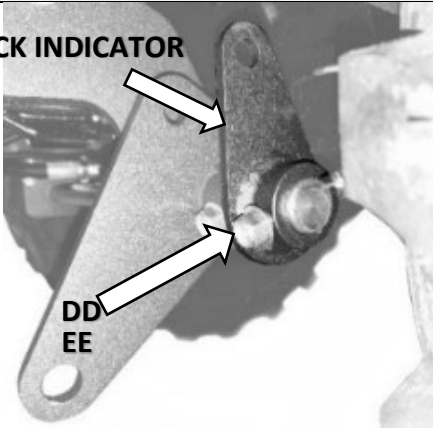

Figure 9A
7. Install the Deck Indicator. Secure the bracket using bolt DD and nut EE as indicated, (Figure 9A). Torque to 55 ft-lb.